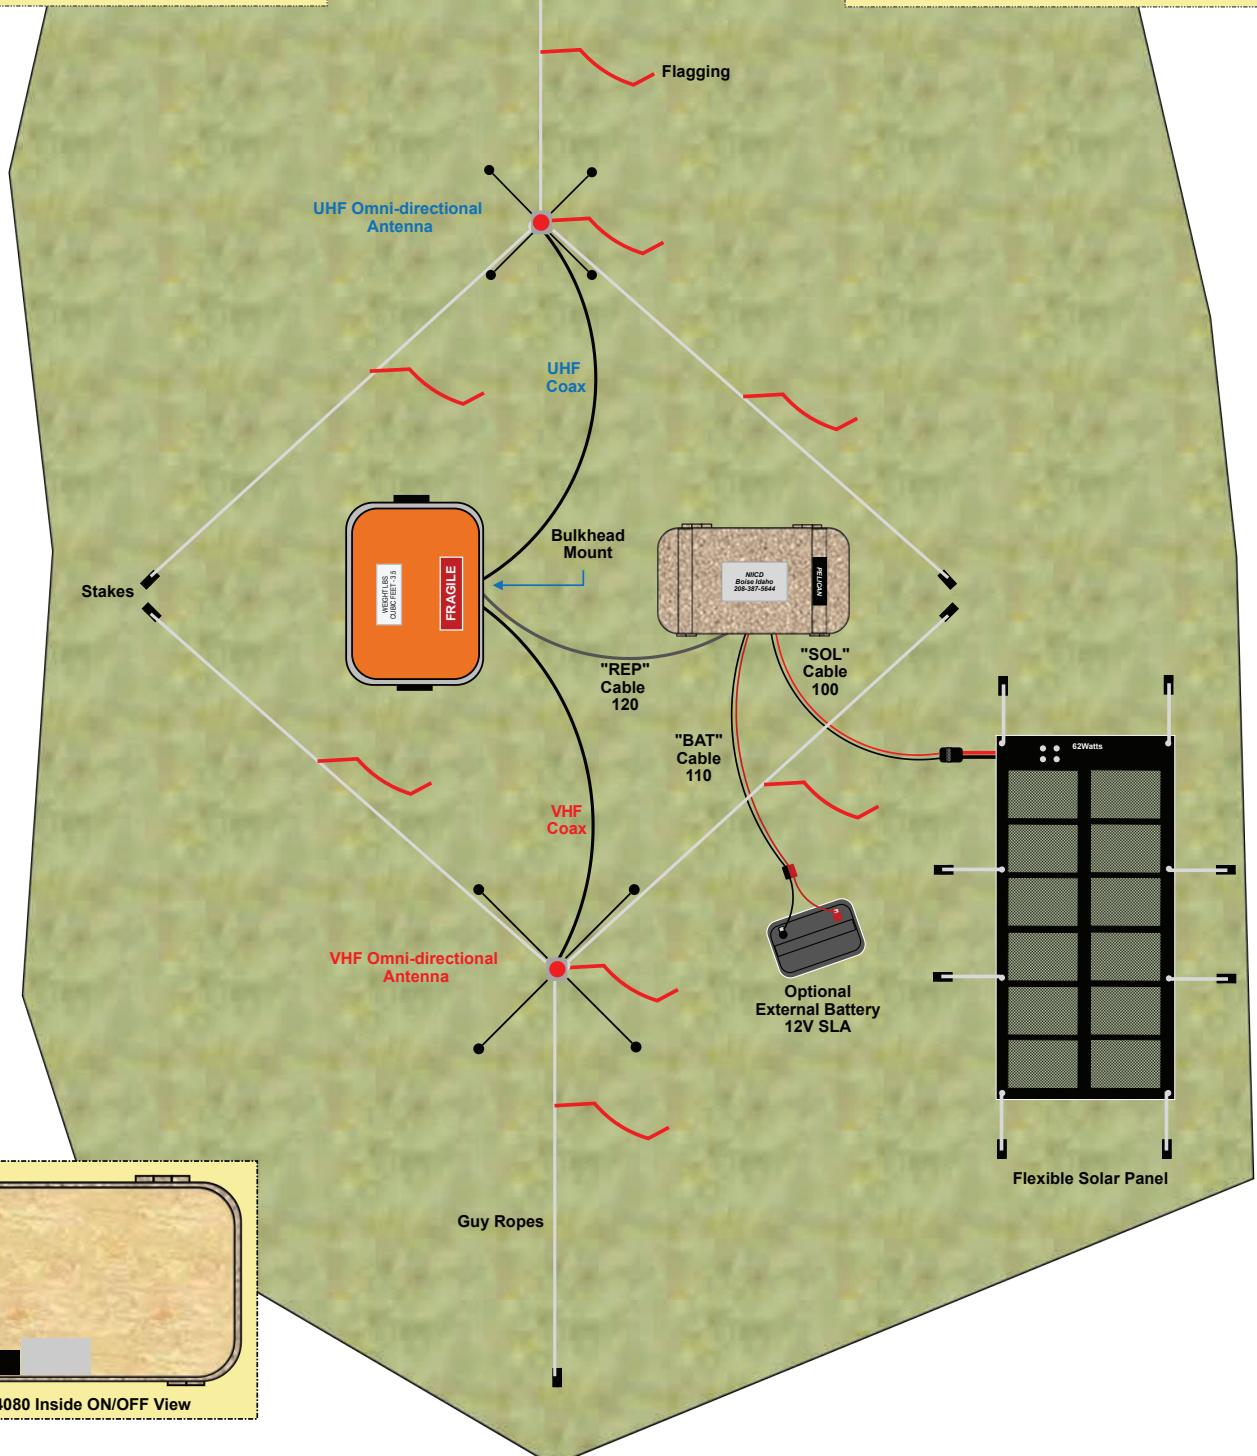

Figure 1: Solar Panel Installation (Overhead View)
1. Antenna Installation (See Figure 1)